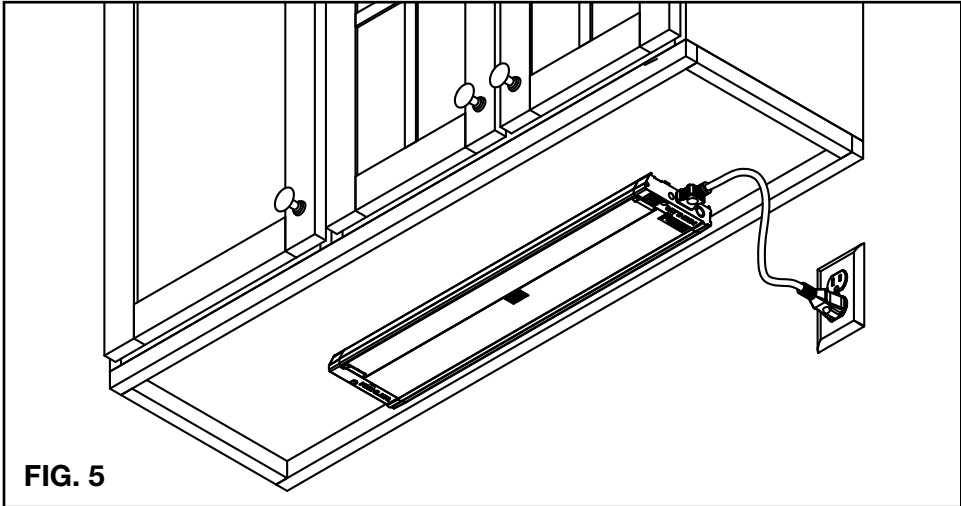

FIG. 5
1. Hold the fixture in the desired mounting location, leaving approximately 2 ½” clearance for plug-in cord, and not more than 5’ from the nearest outlet. Drive mounting screws into cabinet surface until fixture is secure. If screws are difficult to install, mark holes and drill 1/16” maximum pilot holes. (ref. FIG. 5) **NOTE:** For 22” and 30” fixtures, open wire compartment by inserting flathead screwdriver into the slots and wedging cover open to install center screw. Once installed, swing the cover towards the fixture and close it by pressing at the ends of the cover until the cover snaps into place and is flush with the fixture.